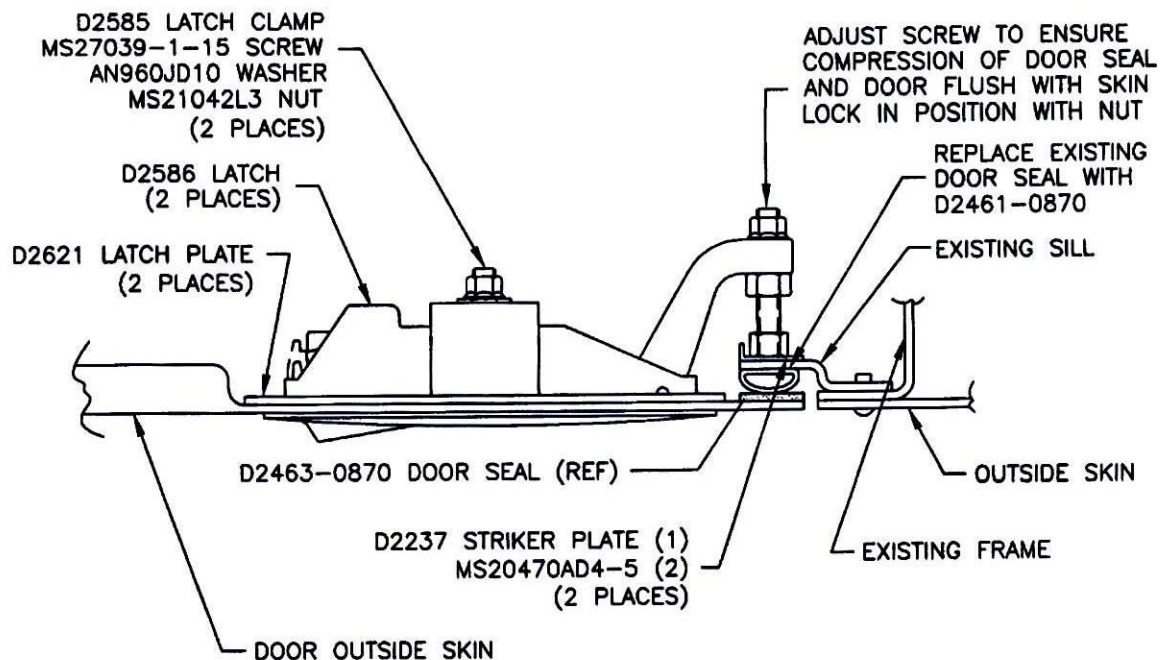

Figure 4: Latch Section
10. Locate D2237 striker plates based on door latch location. Transfer drill 0.128" (3.3mm) diameter holes and install per Figure 4 using MS20470AD4-5 rivets.